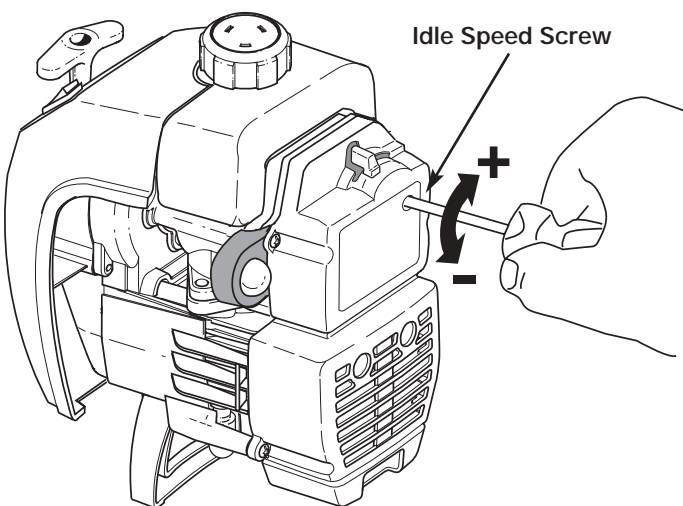

Fig. 28
The idle speed of the engine is adjustable through the air filter/muffler cover (Fig. 28).
2. Release the throttle trigger and let the engine idle. If the engine stops, insert a small phillips or flat blade screwdriver into the hole in the air filter/muffler cover (Fig. 28). Turn the idle speed screw in, **clockwise**, 1/8 of a turn at a time (as needed) until the engine idles smoothly.